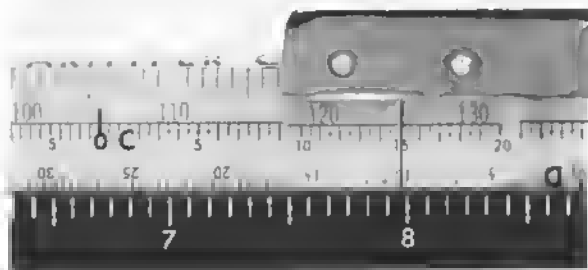

Figure 66
4. Blind type title "SPARE PARTS" in caps, inserting 2 increments between letters, 6 increments between words. Carriage will move amount of space heading takes and its measurement will be indicated on centering scale. Gunsight stops at 15 (Figure 66).